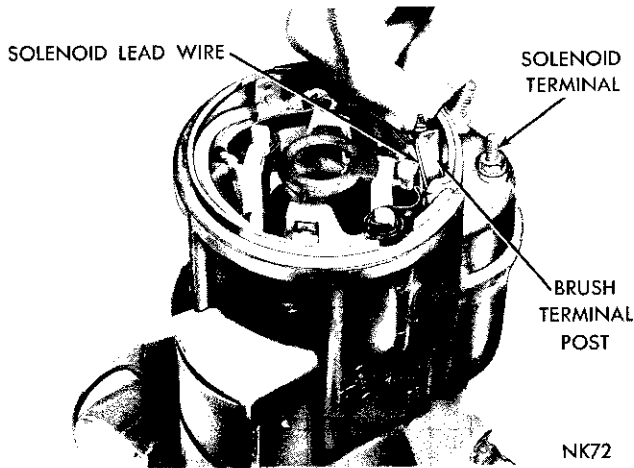

Fig. 4—Unwinding or winding the Solenoid Lead Wire
(6) Remove all old sealer at the brush holder plate and gear housing.
(7) Unsolder the solenoid lead wire and unwind the wire from the starter brush terminal (Fig. 4).